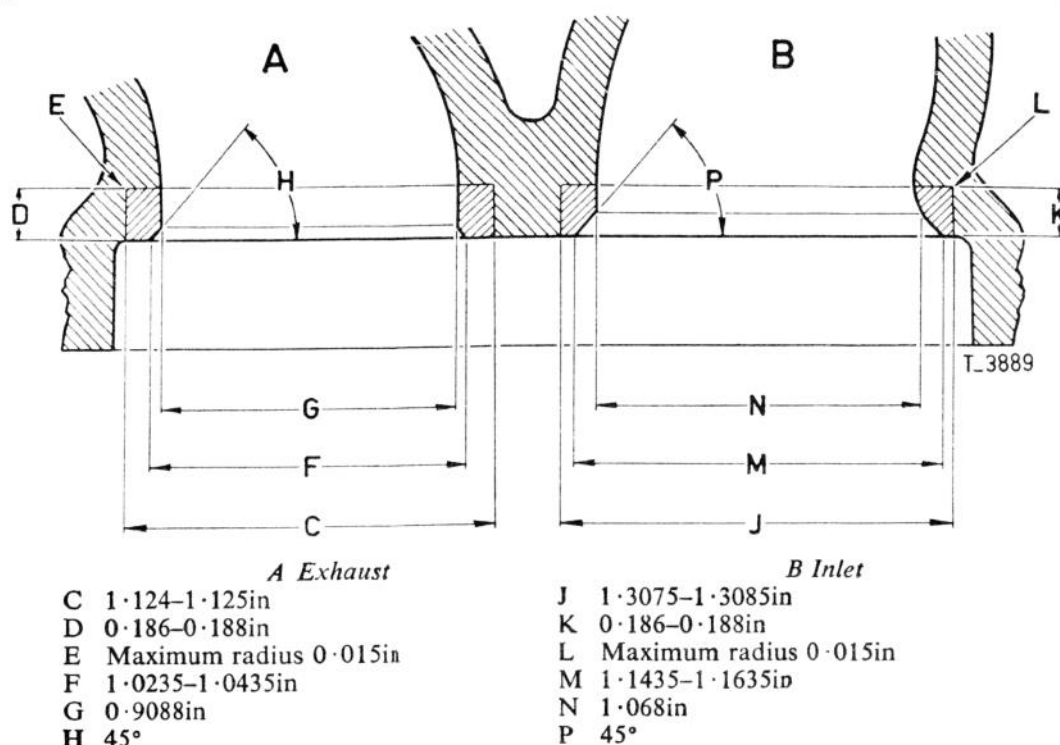

Fig. 25. Valve seat dimensions
**Valve seat inserts:** If the valve seat inserts become so badly worn or pitted that with normal workshop cutting and refacing no satisfactory result could be obtained, new valve seat inserts can be fitted. The seatings in the cylinder head must be machined to the dimensions given in Fig. 25. The new inserts should have an interference fit of 0.0025 to 0.0045 in and must be pressed and not driven into the cylinder head.